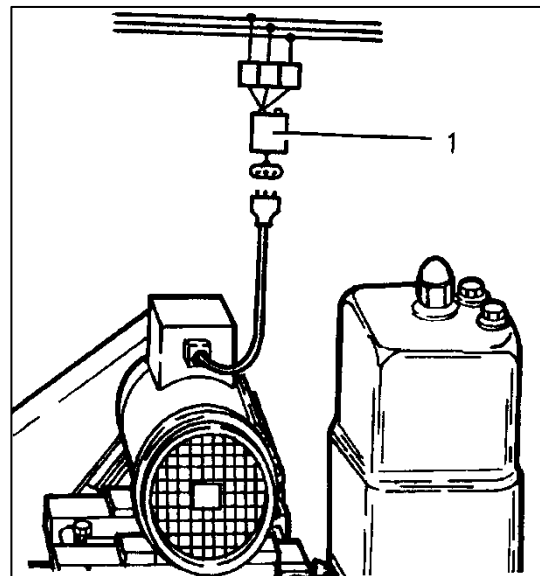

Figure 10: Motor protection switch
Install a motor protection switch (1) to protect the motor (→ Figure 10).